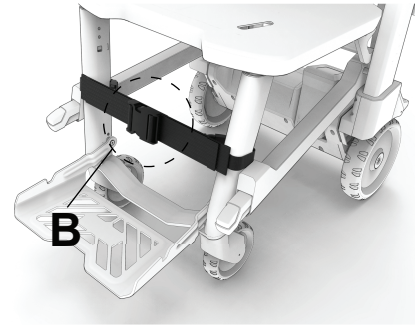

Figure 29 – Connect the double-adjust side release buckle
2. Wrap the straps around the patient's ankles. Connect the larger, double-adjust side release buckle (B) (Figure 29).